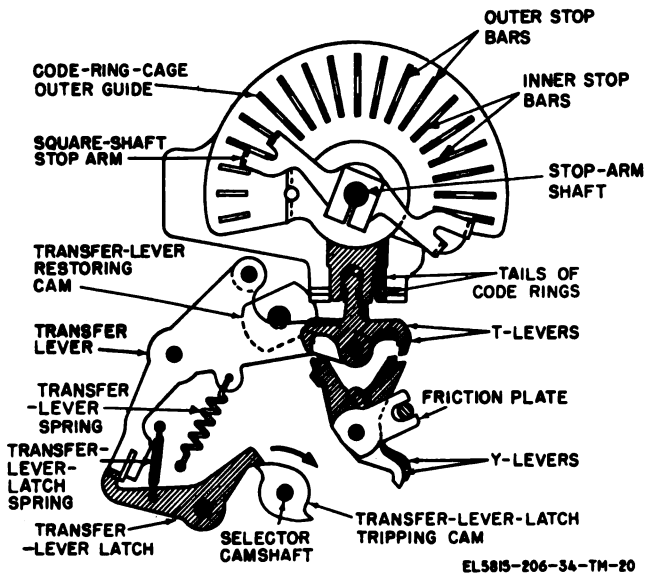

Figure 2-20. Transfer lever in latched position.
retent on the TT-4B/TG, TT-4C/TG, TT-335/TG, TT-537/G, TT-698A/TG, and TT-698B/TG, or the friction plate on the TT-4A/TG and TT-698/TG (fig. 2-20). In this way, each time a marking code impulse is received, its associated Y-lever is moved to the clockwise position.
The purpose of the transfer operation is to pivot each of the five code rings to a position (marking or spacing) to correspond with the nature (marking or spacing) of each of the five code impulses of a received code group. When positioned, the code rings select a stop bar (para 2-20) which controls the selection of the character to be printed or the function (nonprinting mechanical operation) to be performed. The transfer operation occurs automatically, immediately after the five Y-levers are positioned clockwise or counterclockwise in accordance with the nature of each of the five code impulses of the code group (para 2-18a and b). Five T-levers (fig. 2-20) are used to position the code rings. The T-levers are mounted on a common pivot stud that is attached to one arm of the transfer lever. Each T-lever is mounted above, and in alignment
*a. Condition Before Transfer Operation.* When the five Y-levers are being positioned (para 2-18), the transfer-lever latch holds the transfer lever in the counterclockwise position against the pull of the transfer-lever spring, and the five T-levers are held above their respective Y-levers (fig. 2-20).
*b. Positioning T-levers and Code Rings.* Immediately after the fifth selector cam positions the fifth Y-lever, a lobe of the transfer-lever-latch tripping cam (fig. 2-15) pushes against one arm of the transfer-lever latch (fig. 2-20). The latch pivots counterclockwise, releasing the lower arm of the
| 1 | Transfer-lever-latch tripping cam pivots transfer-lever latch (fig. 2-20). |
| 11 | Transfer-lever latch locks transfer lever in counterclockwise position (fig. 2-20).                                | Function-clutch latch cams function-clutch drum out of engagement with function-shaft driven gear: function shaft stops (1/2 revolution completed).   |
A stop bar is selected by the code rings immediately after the five code rings are set to the marking or spacing positions as determined by the five code impulses of the received code group (para 2-19). Thirty-two of thirty-five stop bars provided are used to control the point at which rotation of the square-shaft stop arm (fig. 2-20) is halted after each code group is received. The remaining three stop bars (fig. 2-24) do not affect rotation of the square-shaft stop arm; they activate mechanism for the linefeed, carriage-return, and figures-shift operations (para 2-22, 2-26 and 2-29).